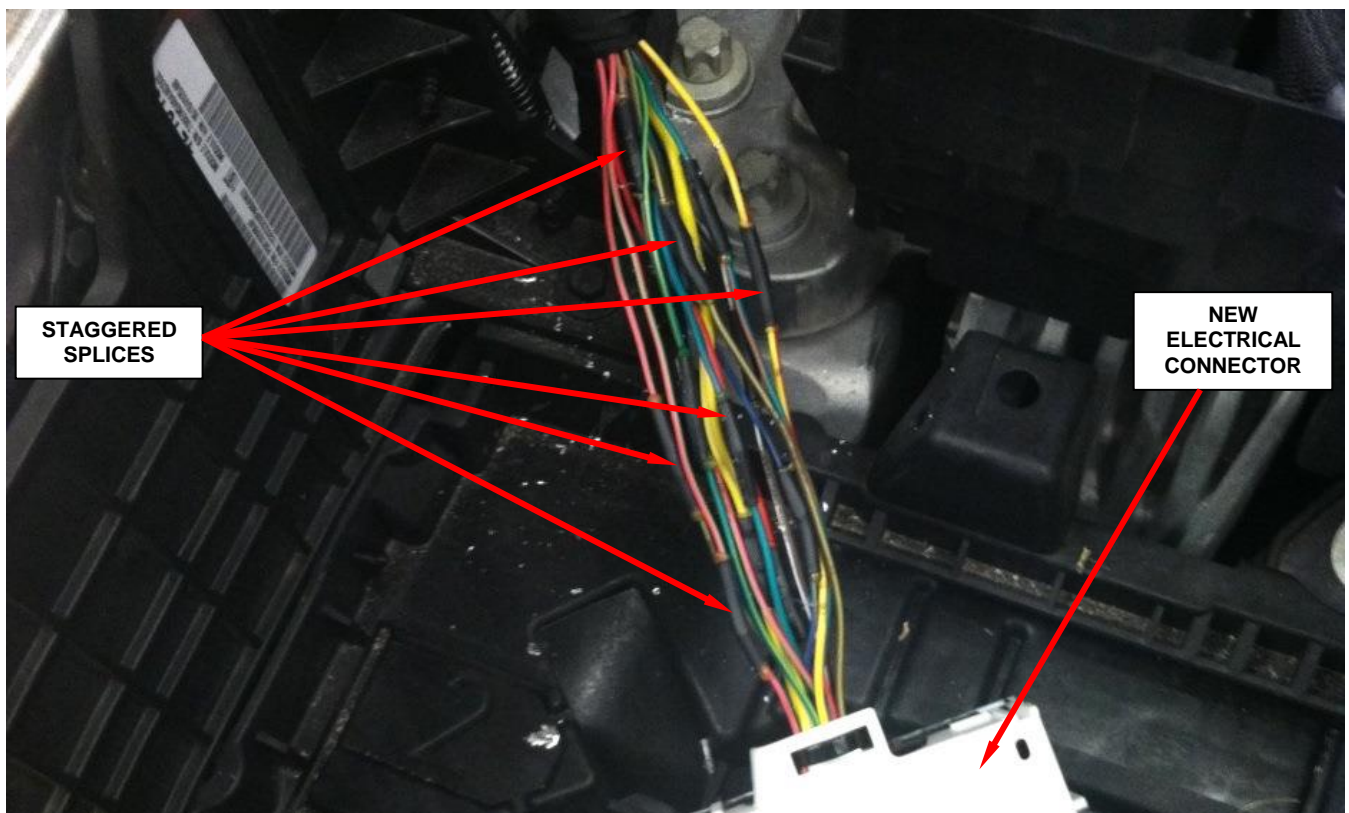

Figure 15 - Stagger the Splices
- f. Repeat Step 6a through 6e on each wire that requires splicing (Figure 15).